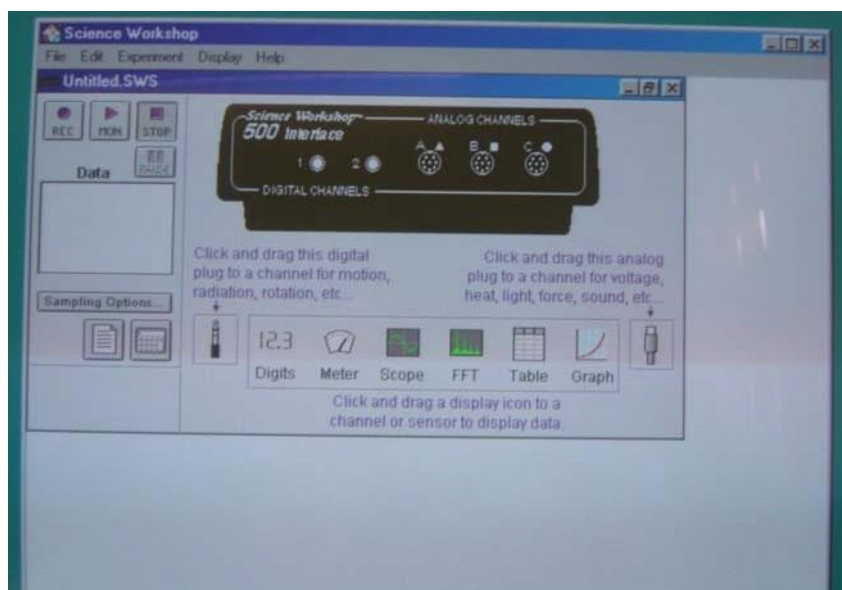

Fig. 1.2 The interface of Science workshop
2. Click and drag the icon of digital plug to digital channel 1. See Fig. 1.2.
3. Click and drag the icon of digital plug to digital channel 1. See Part A Fig. 1.2. Then a dialog <choose a digital sensor> appears automatically. Choose <smart pulley (linear)> and press the <OK> button. See Fig.1.2.